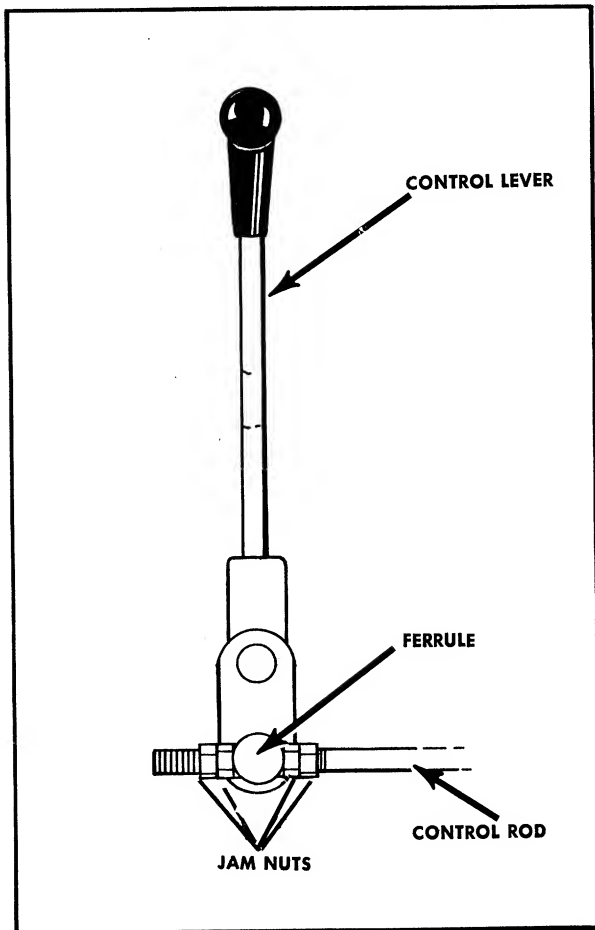

FIGURE 17. CONTROL LEVER ADJUSTMENT
If the tractor has a tendency to creep when the control lever is in neutral (N), an adjustment should be made. See Figure 17.